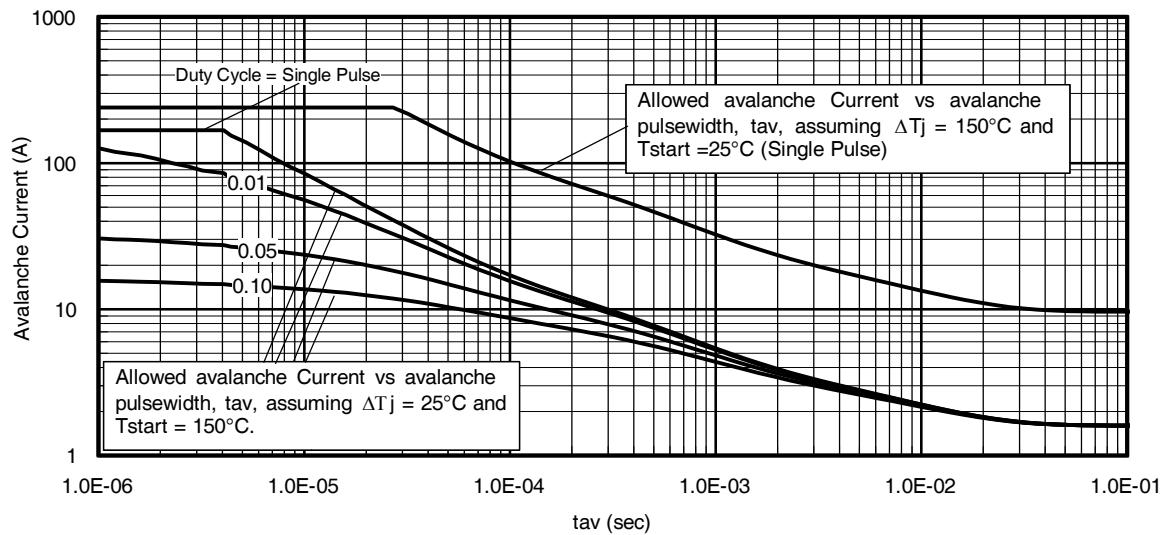

Fig 14. Avalanche Current vs. Pulse width
**Notes on Repetitive Avalanche Curves , Figures 14, 15: